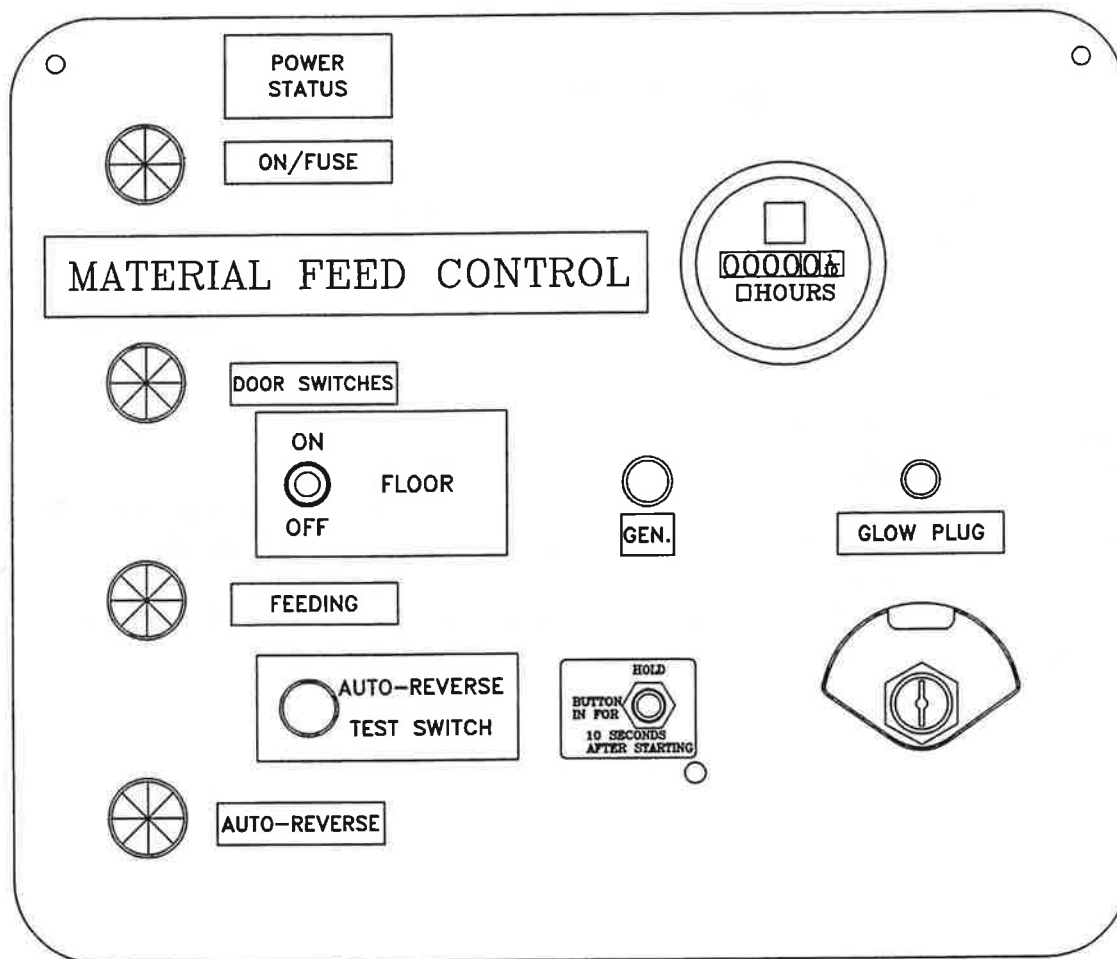

Figure 2
5. Check that the "ON/FUSE" and "DOOR SWITCH" lights are illuminated. If not, check the 10 AMP fuse in the control box (see Figure 2) and verify that the doors are closed at the air lock.
When the "start" button is pushed, the CR1 and CR2 relays in figure 2 are energized. This in turn energizes the "forward" solenoid on the solenoid valve, starting the air lock and the drag conveyor, assuming the conveyor toggle switch is "on". As material drops into the top of the rotary air valve, the pressure to turn the rotary air valve varies. If the pressure reaches the relief valve setting in the solenoid control valve, the oil is channeled through the relief to the hydraulic tank. Placed in this line is a normally open flow switch. Oil going to the tank through the relief valve closes the switch, actuating timer TR1.
Bark Blower with Power Status Lights: (See Figure 2)